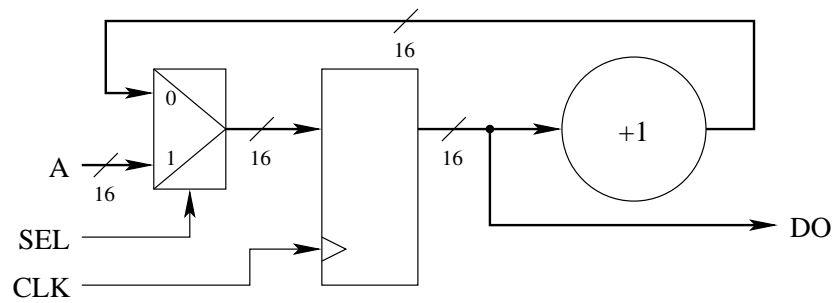

Figure 3: The *INCR* digital circuit
- 1.3. Same question as above about *INCR*, the circuit represented on figure 3.